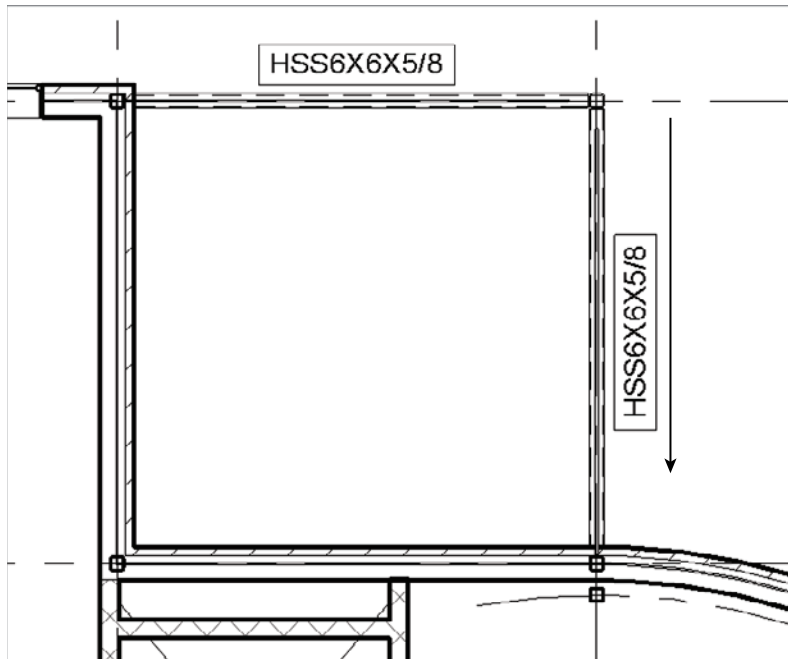

FIGURE 8.36 Adding the second beam
8. With the Beam command still running, pick the exterior column (F-1) and then column F-2, as shown in Figure 8.36.